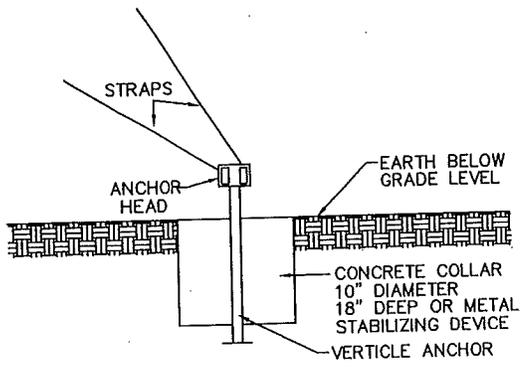

FIGURE 72
3. IF ANCHOR IS INSERTED VERTICALLY A CONCRETE COLLAR OR STABILIZING DEVICE MUST BE USED AT THE GROUND LINE. SEE FIG. 72 & 73.
4. EACH OF THE STRAPS AND CONNECTIONS TO THE I-BEAM MUST HAVE AN ULTIMATE STRENGTH OF 4725 LBS. SEE FIG. 72 & 73.